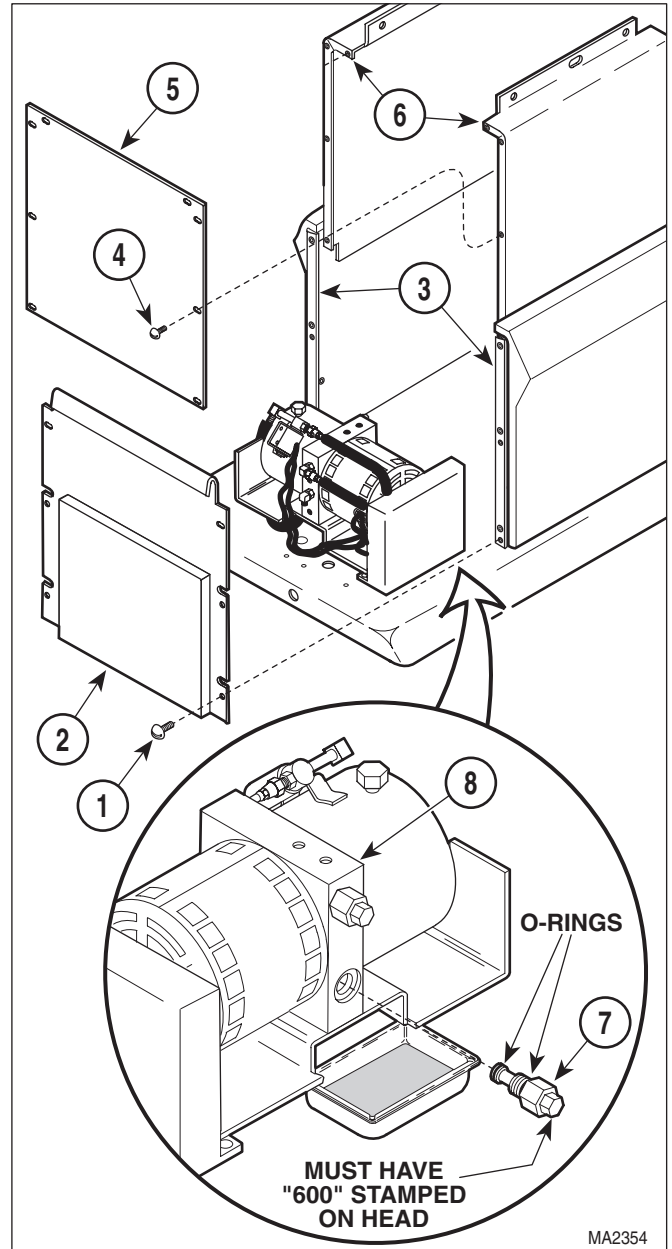

Figure 4-6. Up Functions Relief Valve Removal / Installation
- (2) Unplug table power cord from outlet.
- (3) Remove motor cover assembly (Refer to para 4.2).
- (4) Remove four screws (1, Figure 4-6) and back out shroud (2) from left and right hand outer shrouds (3).